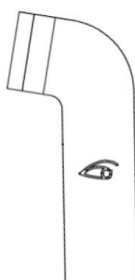

Fig. 26 - Sketch of the eye mark on the metal frame
- chin rest should be positioned so that the patient’s eye is aligned with the eye mark found on the sides of the metal frame (see Fig. 26). If this is not the case the chin rest height needs to be adjusted with the on-screen controls (see §11.14)